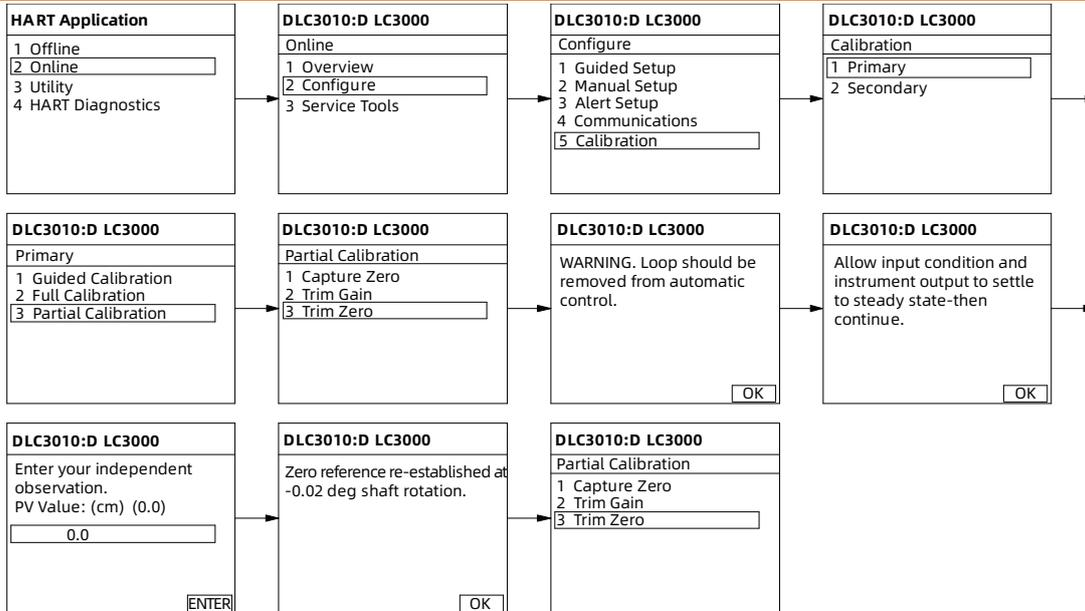

Figure 11
- 1) Zero migration method: Hang the inner cylinder on the lever, operate the handheld device, and enter HART. Select Menu 2 (Online) to 2(Configure) to 5(Calibration) to 1 (Primary) to 3 (Partial Calibration) to 3 (Trim Zero) to Click OK to enter the value 0.0 and click ENTER to Click OK 3 (Trim Zero) to complete the setup (Figure 11, Switch between menus by pressing the right button of the Communicator).